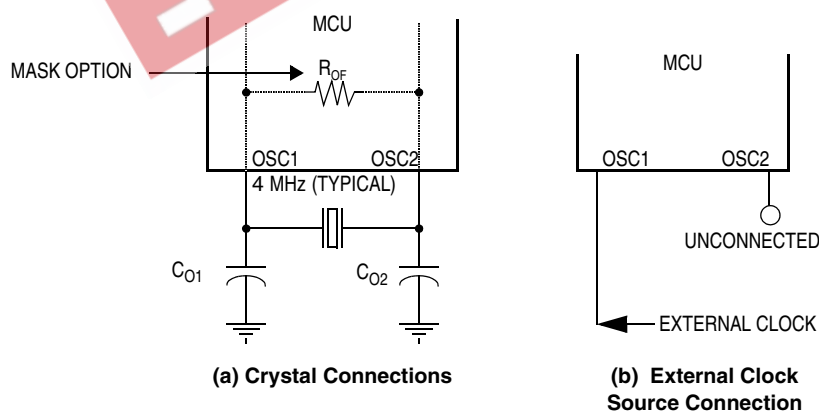

Figure 1-4. Oscillator Connections
1. A crystal or ceramic resonator as shown in Figure 1-4\(a\)
2. An external clock signal as shown in Figure 1-4\(b\)
The circuit in Figure 1-4(a) shows a typical 2-pin oscillator circuit for an AT-cut, parallel, resonant crystal. The crystal manufacturer's recommendations should be followed, since the crystal parameters determine the external component values required to provide maximum stability and reliable startup. The load capacitance values used in the oscillator circuit design should include all stray capacitances. The crystal and components should be mounted as close as possible to the pins for startup stabilization and to minimize output distortion. An internal startup feedback resistor of R_{OF} between OSC1 and OSC2 can be selected as a mask option.
An external clock from another CMOS-compatible device can be connected to the OSC1 input, with the OSC2 output not connected, as shown in Figure 1-4(b). This configuration is possible regardless of the oscillator setup.